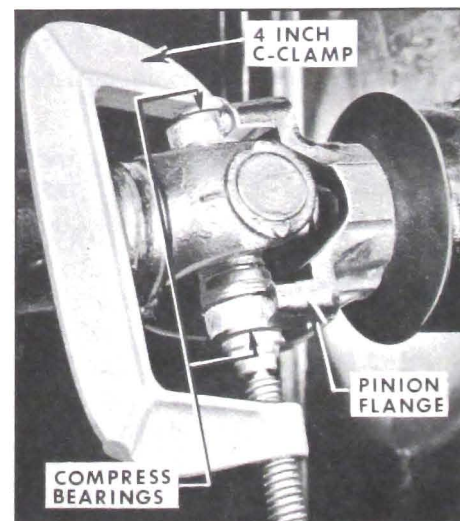
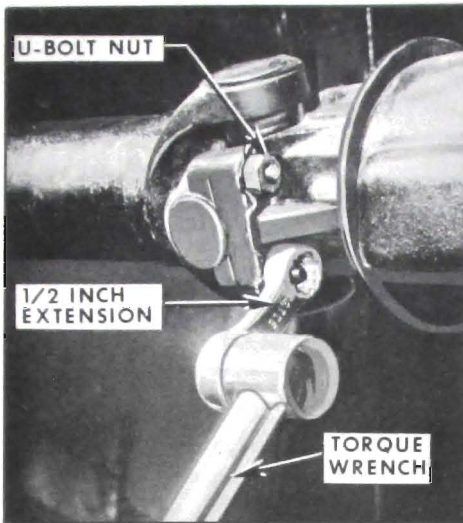

Figure 6-77—Using C-Clamp to Install a U-Joint
Figure 6-78—Using Extension to Torque U-Bolt Clamps
2. Make certain rear universal joint mark is aligned with the pinion flange mark, then install U-bolts, lock plates and nuts. The bearing and spider assembly must be started straight and seated in the companion flange so that no burr is formed by the snap rings gouging the locating surfaces of the companion flange when entering. Use 4 in. C-clamp if necessary to compress bearings so that snap rings do not contact companion flange bearing surface. See Figure 6-77. Replace the flange if it has been gouged or burred. Torque nuts evenly to 15 ft. lbs., using an extension such as J-9113-01 torque wrench. Bend lock tabs against nuts. See Figure 6-78.